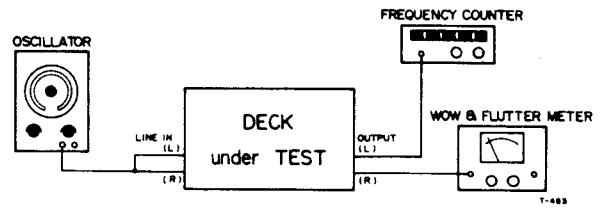

Fig. 2-9
1. Connect a frequency counter to either OUTPUT jack. (See Fig. 2-9).
1. Connect a wow-and-flutter meter to the deck as shown in Fig. 2-9.